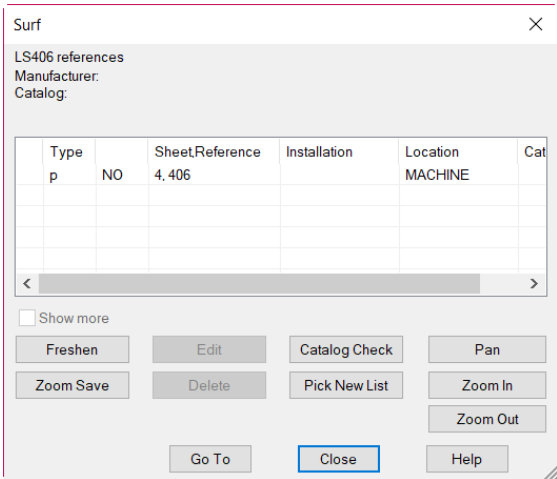

Figure 2-78 The **Surf** dialog box
3. Choose **Surf** from the shortcut menu; the **Surf** dialog box is displayed, as shown in Figure 2-78. Choose **Go To** from the **Surf** dialog box; the *demo04.dwg* file opens with **LS406** zoomed in.